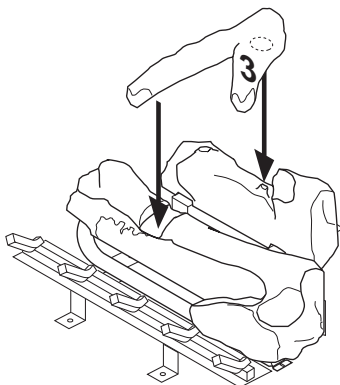

Figure 39 - Installing Log No. 3
4. Place log #3 (crossover log) onto rear and front logs. Make sure it is seated properly into notch on front log and over the raised triangular portion of rear log as shown in Figure 39.